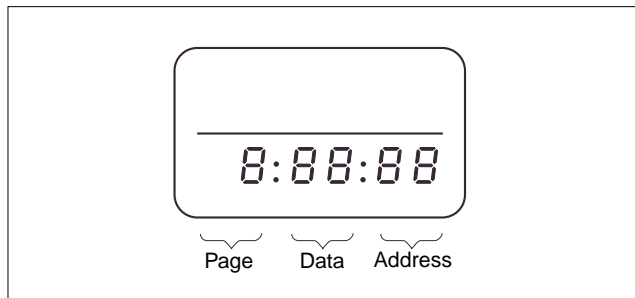

Fig. 5-4-1
- 2) Set the HOLD switch of the adjustment remote commander to "HOLD" (SERVICE position). If it has been properly connected, the LCD on the adjustment remote commander will display as shown in Fig. 5-4-1.